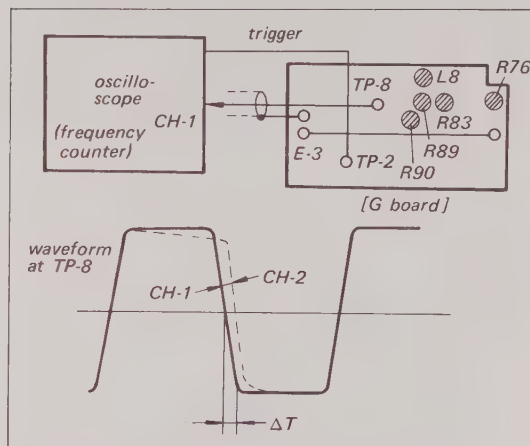

Fig. 8-22. Waveform symmetry adjustment
(Refer to Fig. 8-22.)
3. Connect a frequency counter or scope to TP-8 on the G board. Trigger the scope internally. See Fig. 8-22.
8. Adjust R89 and R90 for perfect waveform symmetry. See Fig. 8-22.